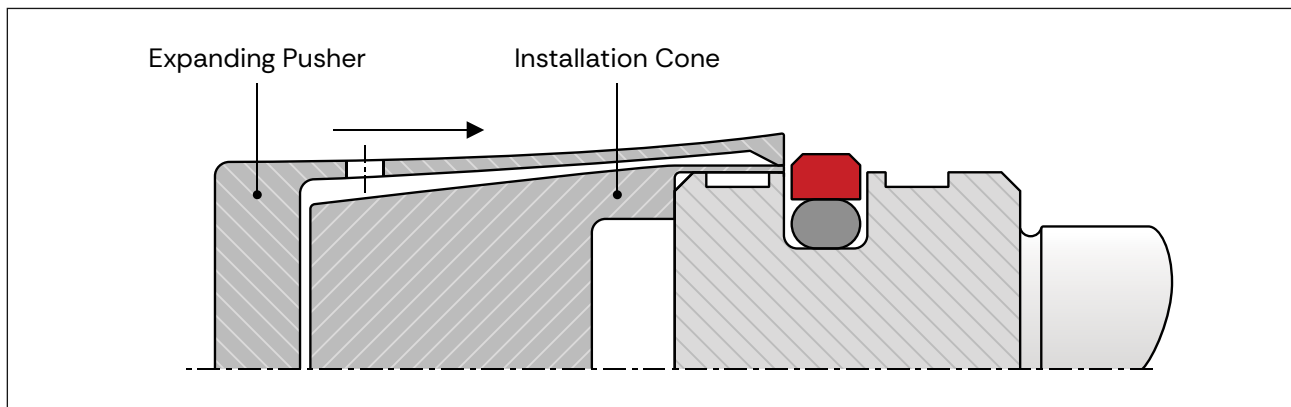

Figure 41: Installation of the sealing ring in the piston groove.
- Perform a calibration of the seal ring using a separate calibration sleeve or by using the cylinder tube, provided it has lead-in chamfers equivalent to twice the values shown in table 17. Calibration will reduce the diameter of the seal and place it correctly in its groove (see figure 41).
- Position the expanding pusher over the installation cone, using it to guide the sealing ring into the groove. This action will expand the seal ring over the piston and ease the installation process (see figure 41). Once the seal reaches the groove, it will snap into it.